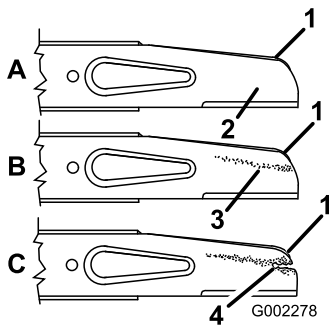

Figure 28
2. Remove the blade bolt, the lock washer, the accelerator, and the blade (Figure 28).